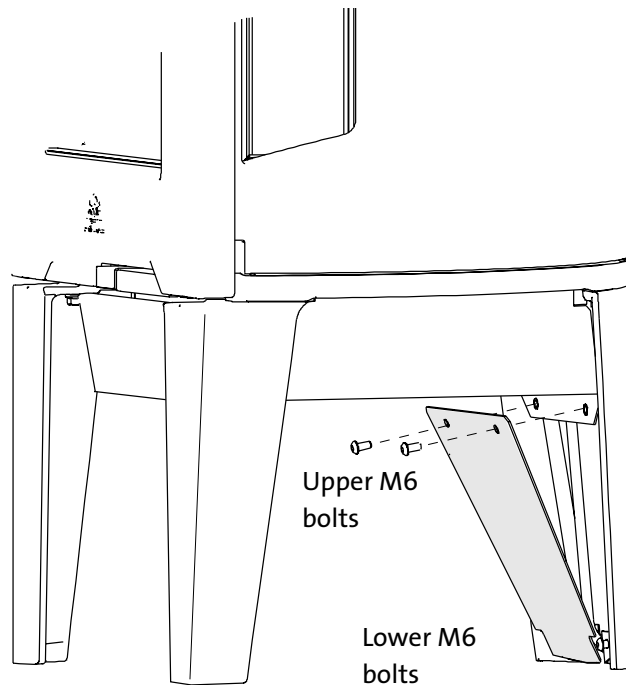

Figure 7.5. Remove Utility Panel.
**10. Remove the Utility Panel from the rear leg. Fig. 7.5.** Remove the upper M6 bolts and loosen the lower bolts. Remove the panel by tilting it forward and off of the lower bolts.